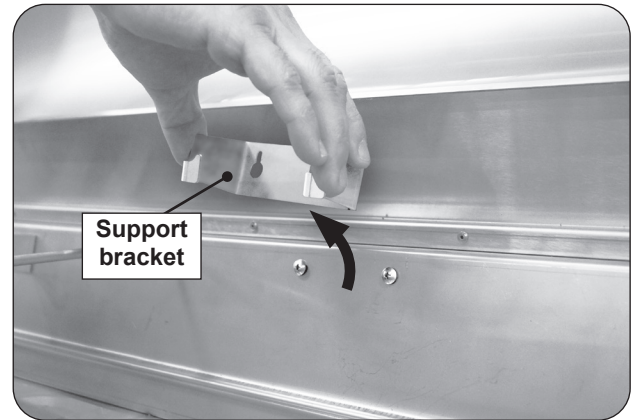

Fig. 25-1 Remove element support bracket
2. Locate the rear heating element support bracket and slightly loosen the two screws. Detach and remove the bracket by sliding it upward. See Fig. 25-1.